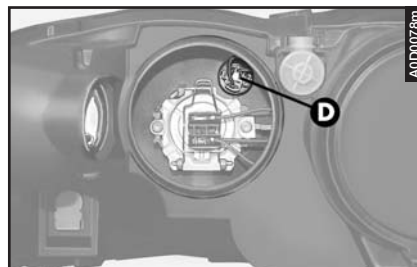

fig. 46
- Press the two retaining tabs and remove the bulb holder (**D-fig. 46**).